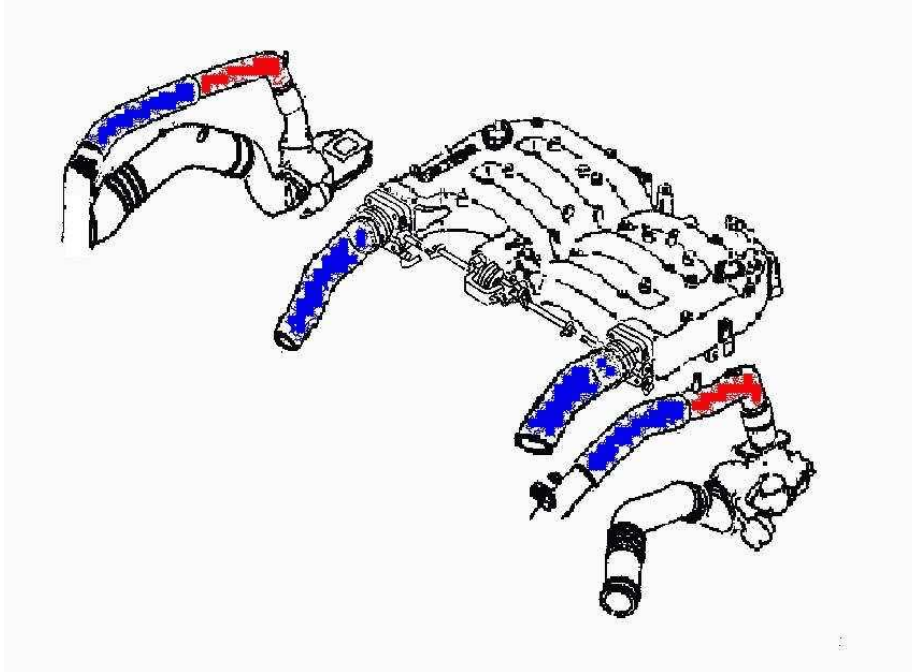

Figure 2: Intake Piping
15. Remove the four intake pipes (shown in blue in Figure 2) from the front of the plenum (8 x 10mm) (this step can be done at any time)
16. In order to unbolt the EGR tubes at a later step, undo the clamps that hold the hard pipes (shown in red in Figure 2) to the compressor side of the turbos shown in Figures 3 and 4 (2 x 8mm and flex joint, extensions) (NOTE: if you have a 10mm carburetor wrench, you can skip this step)